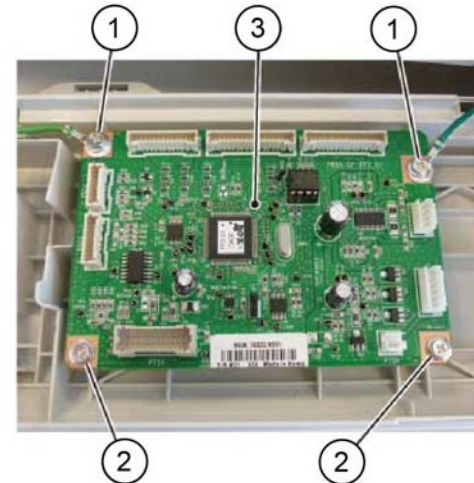

Figure 3 DADF PWB removal
4. Remove the DADF PWB, Figure 3:
- a. Disconnect the two screws with ground wires (1).
- b. Remove the other two screws (2).
- c. Remove the DADF PWB (3).